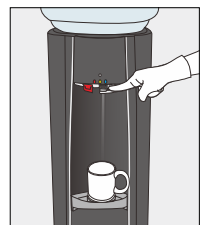

Figure 10
2. Depress (push downwards) cold water lever to start cold water flow (Figure 10)